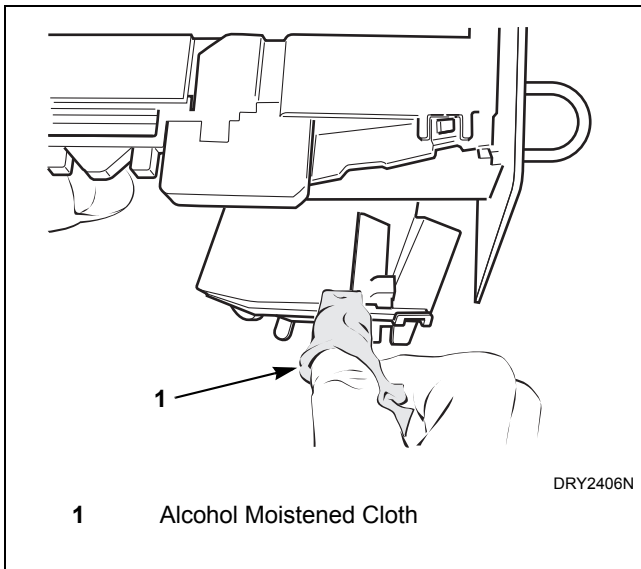

Figure 4
5. Clean residue from coin rail with an alcohol moistened cloth. Refer to *Figure 4*.